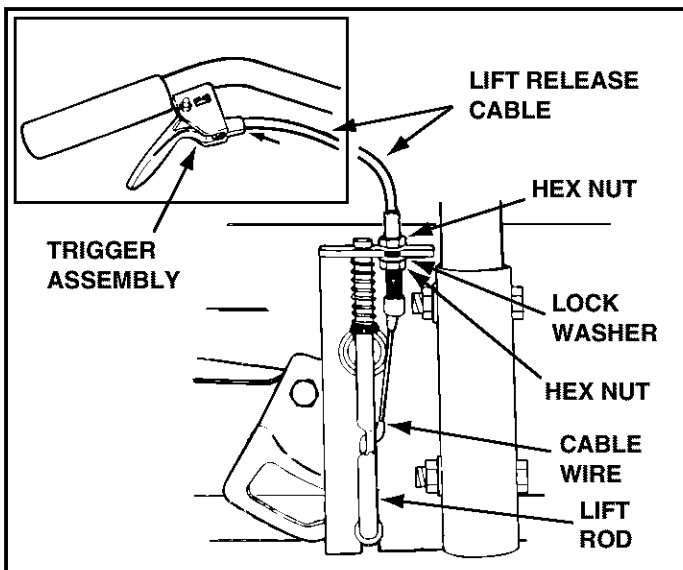

FIGURE 16 RIGHT SIDE VIEW
- Push the lift handle down into the locked position. Insert the end of the cable wire into the hole in the lift rod. Place the threaded fitting into the slot in the lift bracket, with one hex nut above and one hex nut and the lock washer below the slot. Tighten the nuts, adjusting them to eliminate slack in the cable wire. See figure 16. Refer also to the Service and Adjustments section on page 17 in this manual.